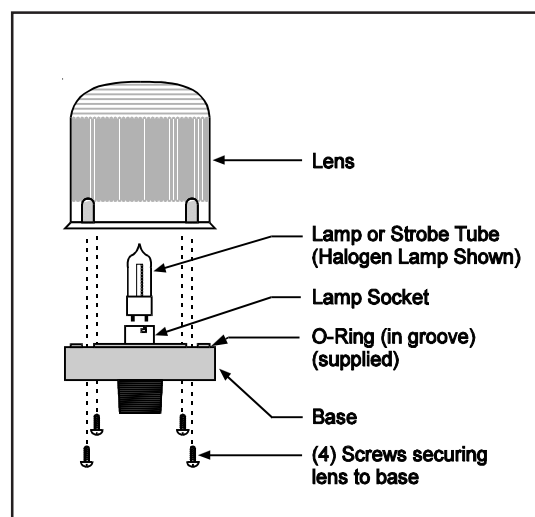

Figure 3. Lamp Replacement
2. Remove (4) screws securing the lens to the base from bottom of base (Figure 3) and remove lens.
3. Replace halogen lamp or strobe tube as follows (Figure 3):